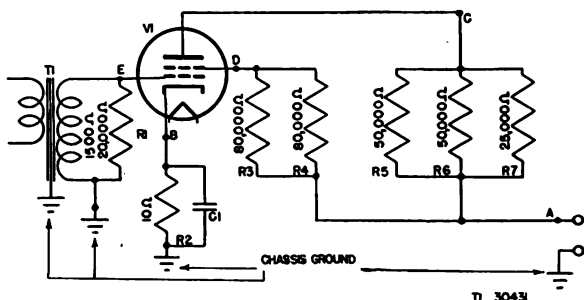

Figure 62. Resistance measurements functional schematic.
(5) OTHER UNITS IN PARALLEL. The combined or resultant resistance of a parallel circuit containing coils, chokes, or transformer windings is determined by exactly the same methods used to determine the resistance of resistors. The d-c resistance of the winding is considered in the same manner as the rated resistance of any resistor.
(6) PRACTICAL EXAMPLES OF PARALLEL CIRCUITS. Figure 62 shows a single-amplifier stage V1 with parallel connection of parts in the screen grid, plate, and grid circuits. The cathode circuit consists of a simple series connection.
(c) *Grid Circuit.* Figure 62 shows a grid circuit comprised of a resistor and a transformer secondary winding. The measurement is made between points E and ground (the chassis). An ohmmeter is used to make this and all subsequent measurements.
(d) *Cathode Circuit.* The circuit in figure 62 shows a simple series circuit between the cathode (B) and ground. The measured resistance should be the same as that of resistor R2, or 10 ohms. If capacitor C1 (cathode bypass capacitor) were leaky, a parallel circuit would be formed, because the leaky capacitor would offer a path for the flow of direct current. In this case, the lower resultant-resistance measurement would reveal the defective capacitor.